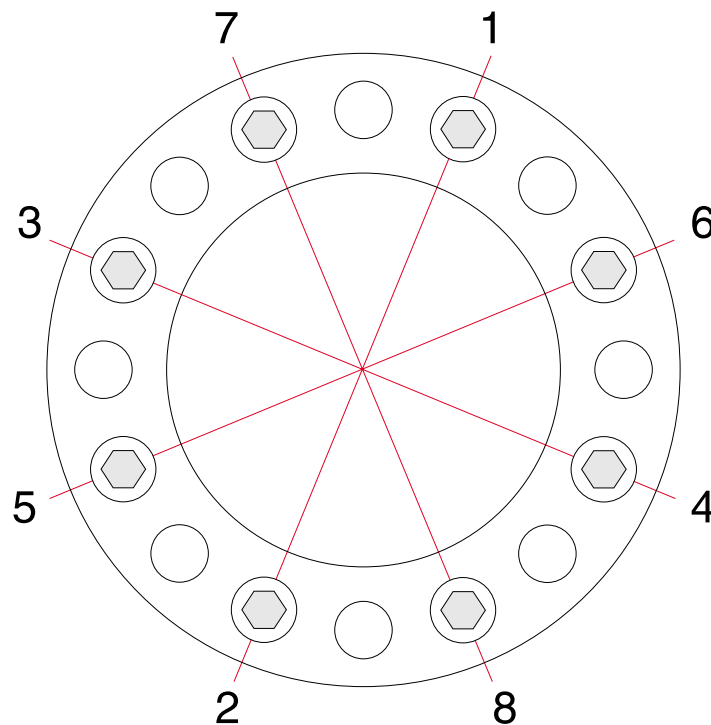

Fig. 11-7
- 12** Tighten the screws cross-wise see Fig. 11-7